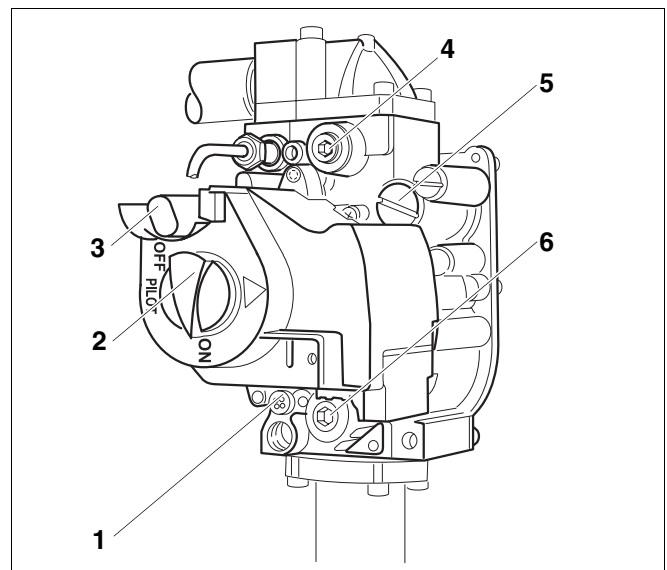

Fig. 17 GC124 SP gas valve
- Never use excessive force on the ON/OFF knob (→ Fig. 17).
1. Turn gas valve ON/OFF switch counterclockwise to "PILOT" position (→ Fig. 17).